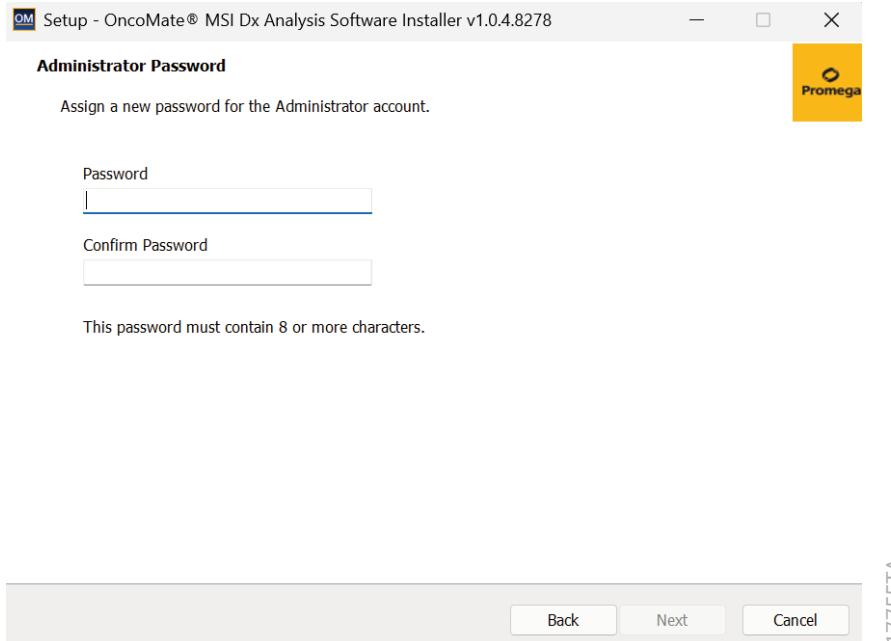

Figure 4. Assigning a password for the Administrator account.
4. Choose a password for the Administrator account, and type the password into the 'Password' and 'Confirm Password' fields (Figure 4). The password must be at least eight characters long and is case-sensitive.